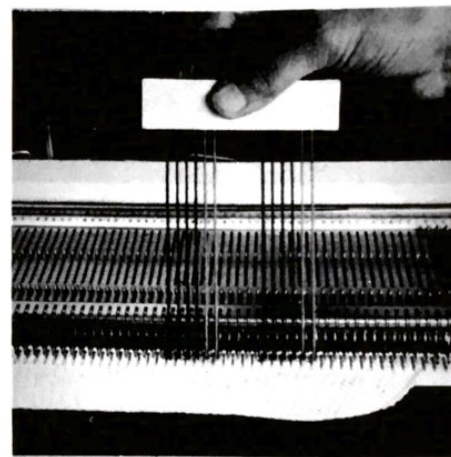

Fig. 52
- (e) Raise the Vertical Pattern Knitter as shown in Fig. 52 and hook each strand onto its adjacent needle **on the left**.
- (d) Raise the Vertical Pattern Knitter as shown in Fig. 52 and place each strand of cotton into the hook of the adjacent needle to the **left** as you lower the Vertical Pattern Knitter. Knit this row by moving the Carriage from left to right.